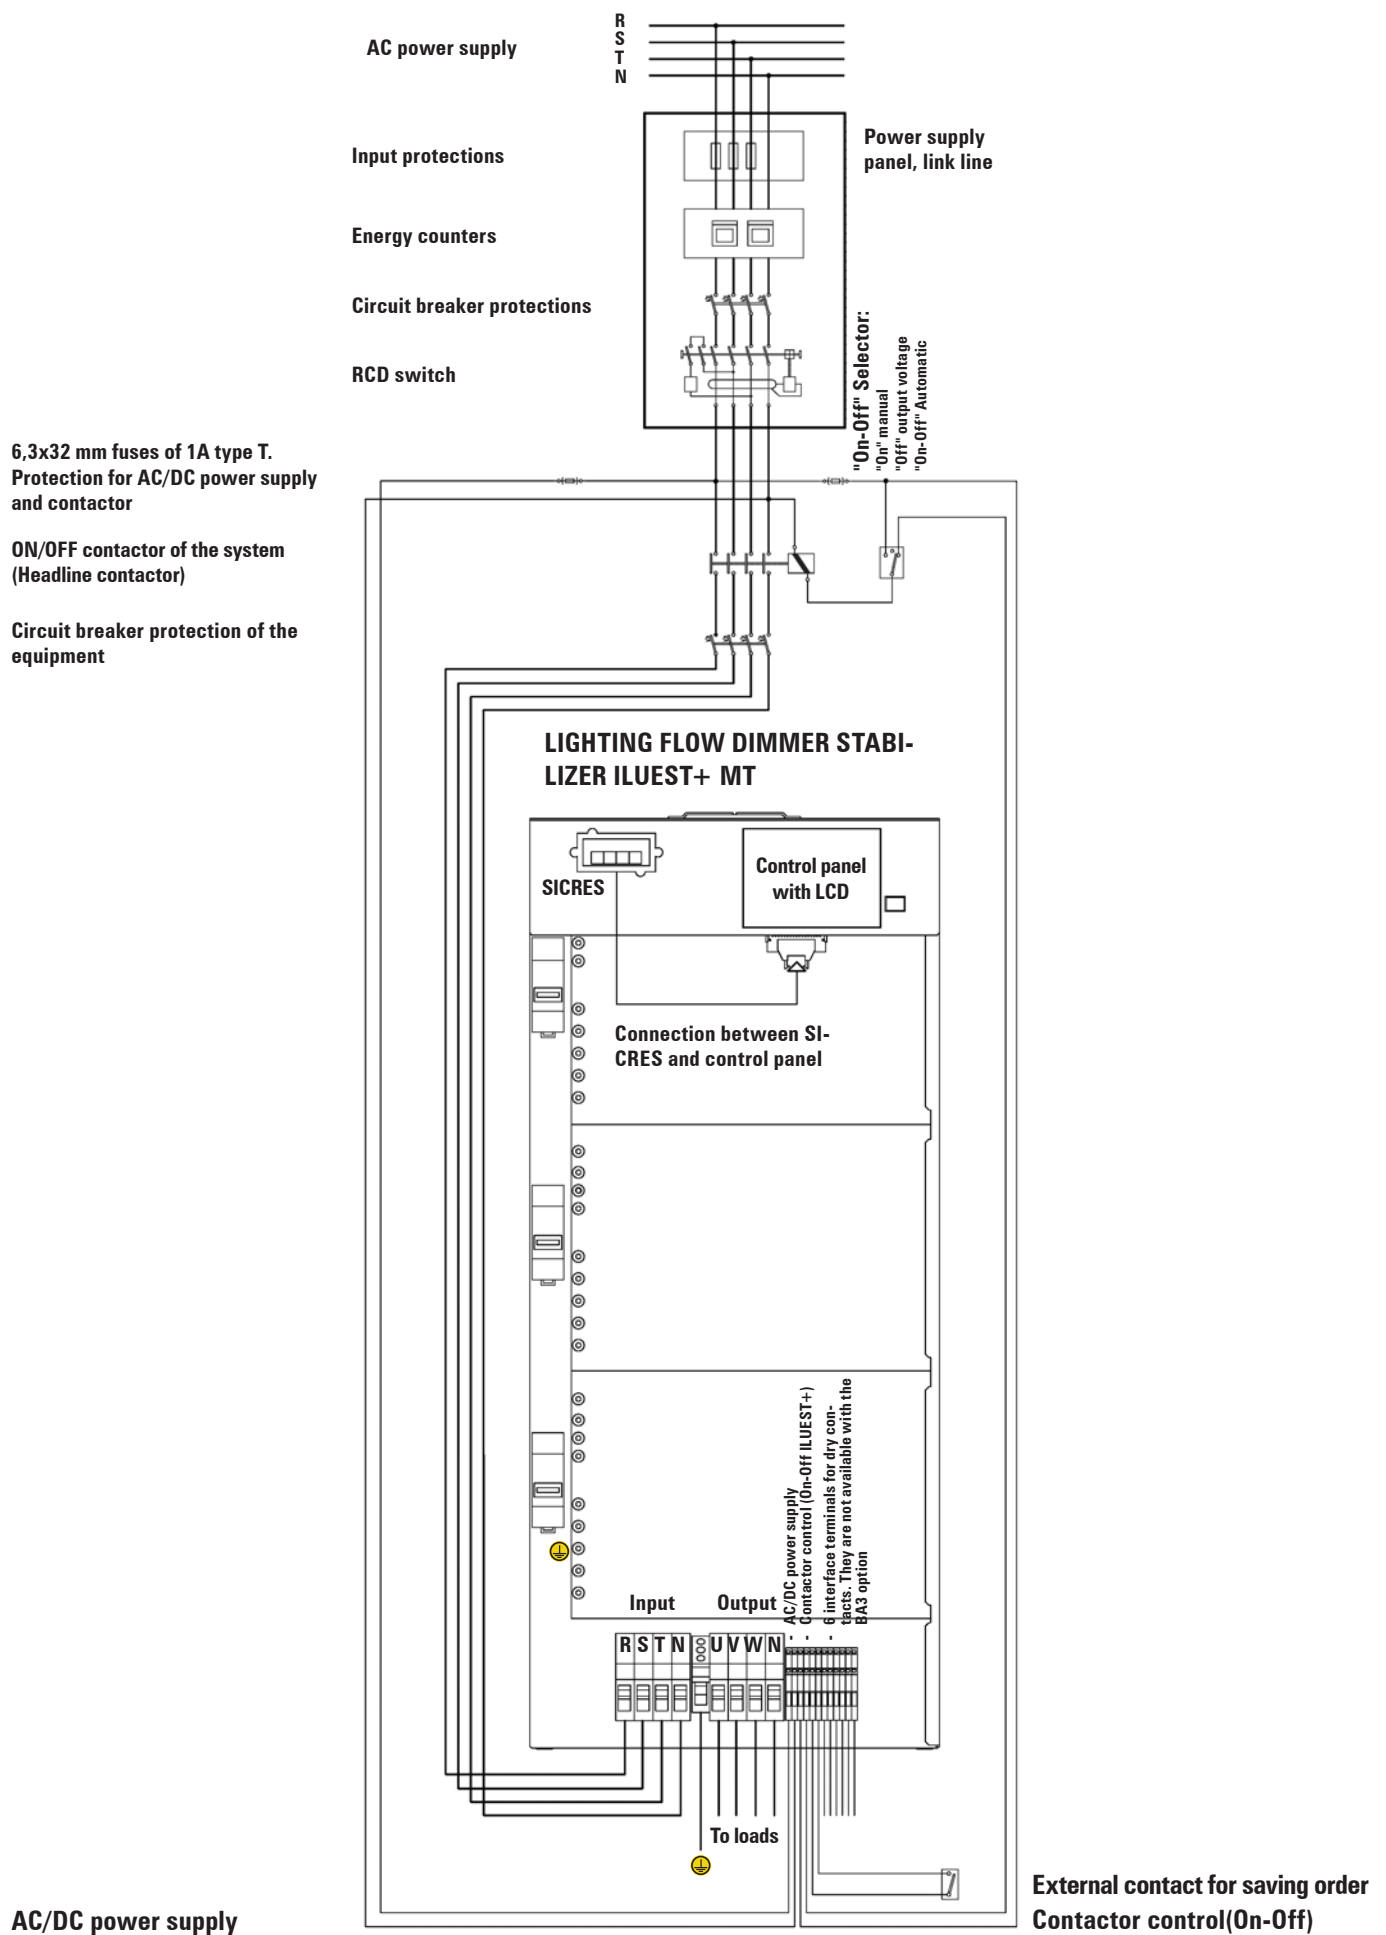

Fig. 19. Typical three phase installation circuit diagram.
- The connection of **ILUEST+ MT** will be done at the headline of the power supply. As an example figures 19 and 20, show a typical three phase installation circuit diagram and the same installation with an equipment with options.
Figures 19 and 20 show as an example the typical electrical installation of a three phase unit from **ILUEST+ MT** and the same installation with an equipment with options. It is important to meet the following premise:
- To feed the AC terminals **(3)** from power supply of control panel, from the input line of the headline contactor (see figure 19).
- Connect the contactor coil to the terminals **(4)** according to the same figure 19, in order to leave the system to operate according to the settings automatically.
As an example, both the circuit diagram from figure 19 and the one from figure 20 belong to three phase equipments.
4.6.3. Power supply of the LCD control panel. Terminals (3).
- Connect two wires of RZ1-K type of 2,5 mm² cross section coming from the input of the headline contactor (phase R and neutral N), to terminals (3) -power supply for control panel with LCD- by respecting the wiring circuit diagram of figures 19 and 20.
4.6.4. Connection of the headline contactor coil. Terminals (4).
- Connect the contactor coil to terminals (4) by means of wires of 2,5 mm² of RZ1-K type, by respecting the circuit diagram of figures 19 and 20.
4.6.5. Connection of the remote control, saving order. Terminals (5).
- Use a dry contact, i.e. a switch, to be installed by the user, between these terminals (5) to close the circuit and start and remain on saving level.
A switch of three positions like the required by the regulations can be observed in figures 19 and 20, to activate the manual function «On» (manual forcing to turn on the contactor), «Off» manual (manual forcing to shutdown the contactor) and automatic function «On-Off» (contactor will be activated or deactivated according to the control automatism itself).